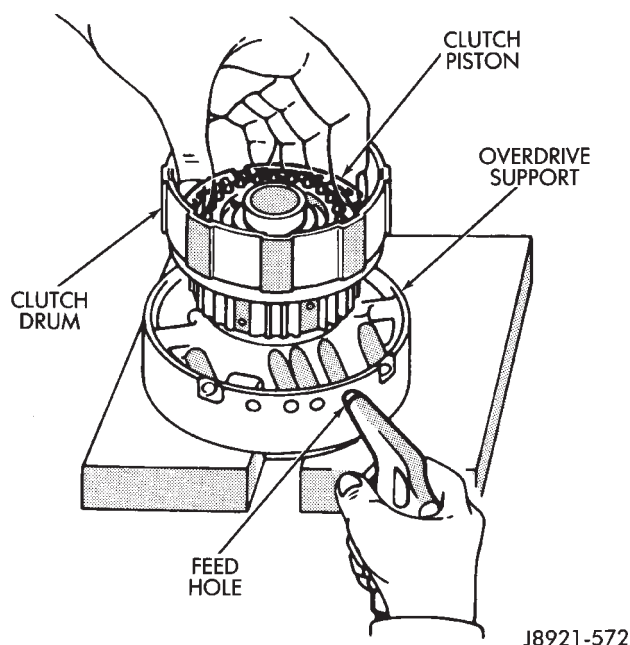

Fig. 6 Removing Forward Clutch Piston
(11) Remove spring compressor tool and piston return springs.
(12) Remount forward clutch drum on overdrive support (Fig. 6).
(13) Remove forward clutch piston. Apply compressed air through feed hole in support to remove piston (Fig. 6). Use only enough air pressure to ease piston out of drum.
(14) Remove and discard clutch piston O-rings.